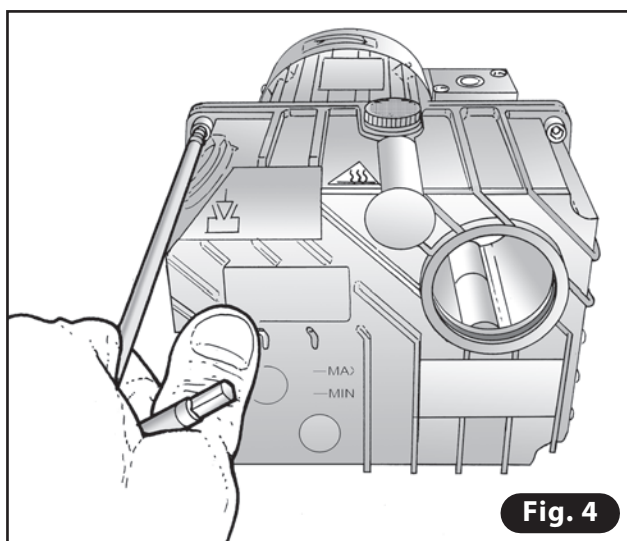

Fig. 4
- 3) Use a setscrew wrench to undo the two screw fasteners on the block. Lift the intake block (Fig. 4).